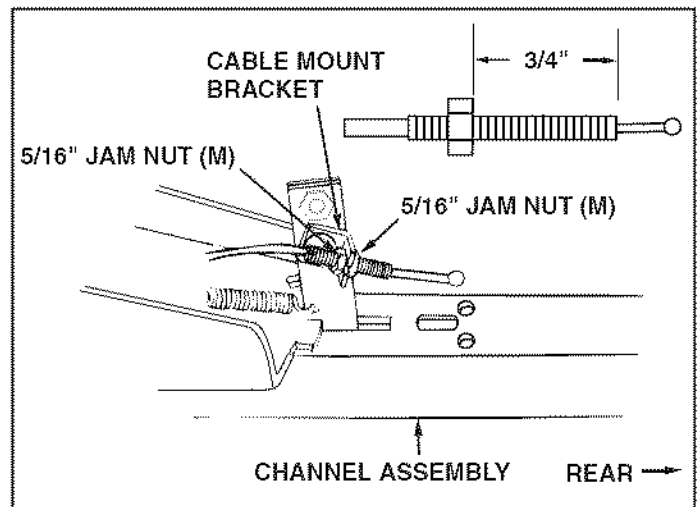

FIGURE 17 (Left Hand Side View)
- Assemble a 3/8" x 1-1/4" carriage bolt (G) through the square hole in the cable mount bracket and through the square hole in the angle lock bars as shown. (The carriage bolts should face in opposite directions.) Using pliers hold the cable mount bracket in position, angling down towards the L.H. hole in the channel as shown. Secure with a 3/8" nylock nut (K). **Tighten.** Refer also to figure 17 for the correct angle for the cable mount bracket.
#### STEP 17: (SEE FIGURE 17)